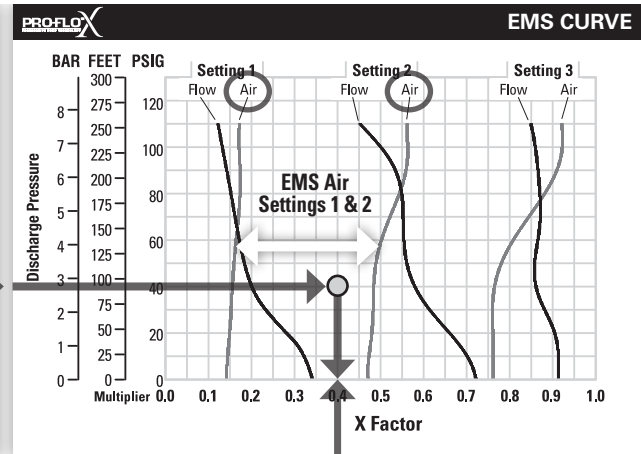

Figure 7
**Step 1: Determine air X Factor.** In order to determine the air X Factor, identify the two air EMS setting curves closest to the EMS setting established in example 2.1 (in this case, the point lies between the air curves for EMS setting 1 and 2). The point representing your EMS setting (1.8) must be approximated and plotted on the EMS curve along the horizontal line representing your discharge pressure (in this case, 40 psig). This air point is different than the flow point plotted in example 2.1. After estimating (or interpolating) this point on the curve, draw a vertical line downward until reaching the bottom scale on the chart and identify the air X Factor (Figure 7).